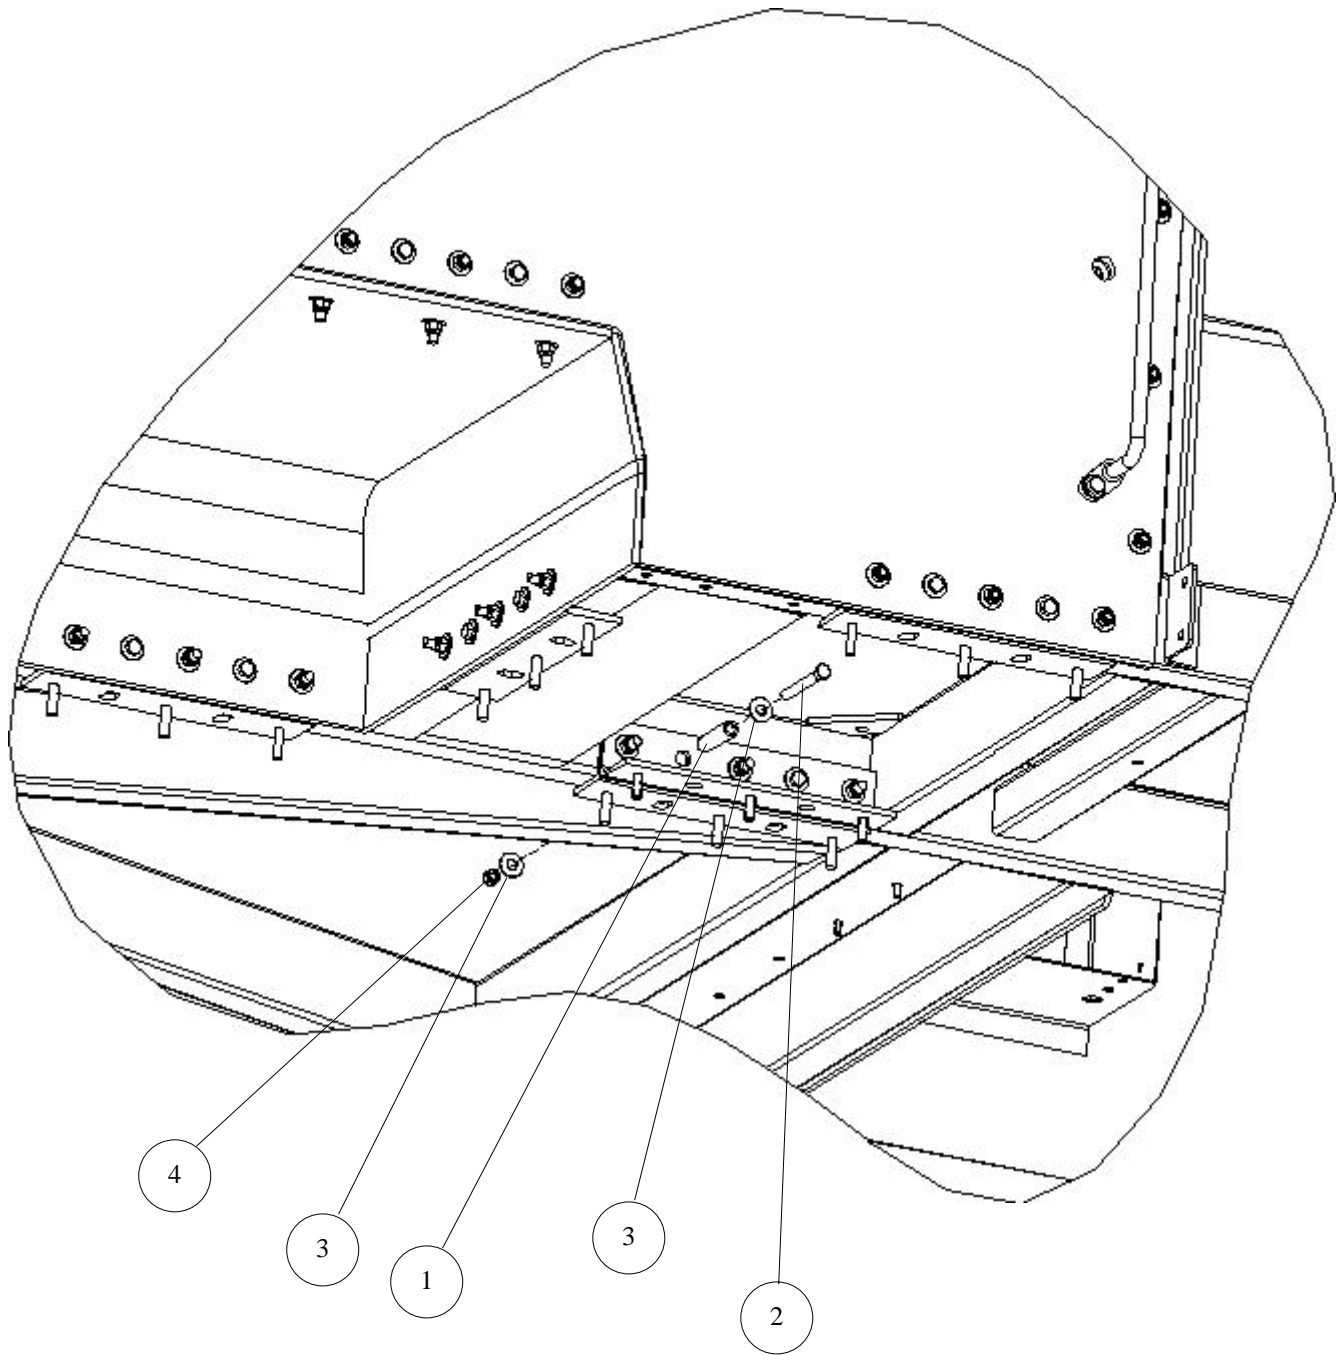

Figure 3-33. Bottom Rear Bracket Installation.
2. Fasten bottom rear bracket assembly to frame as follows (see Figure 3-33):
- a. Fasten the bottom rear bracket assembly into place against bottom frame rails by installing two sleeve bushings (1) and securing with two bolts (2), four flat washers (3), and two locknuts (4). Torque bolts to 35 lb-ft.